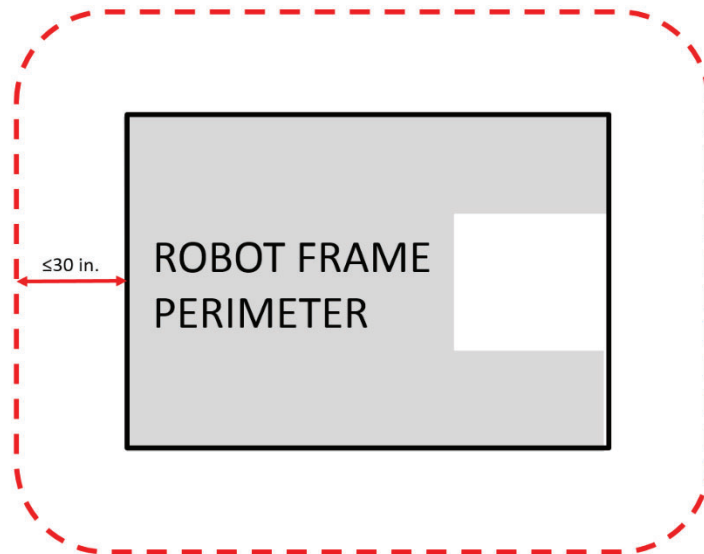

Figure 10-1 FRAME PERIMETER extension
- R4.** ROBOTS may not extend more than 30 in. (~76 cm) beyond their FRAME PERIMETER (see Figure 10-1)